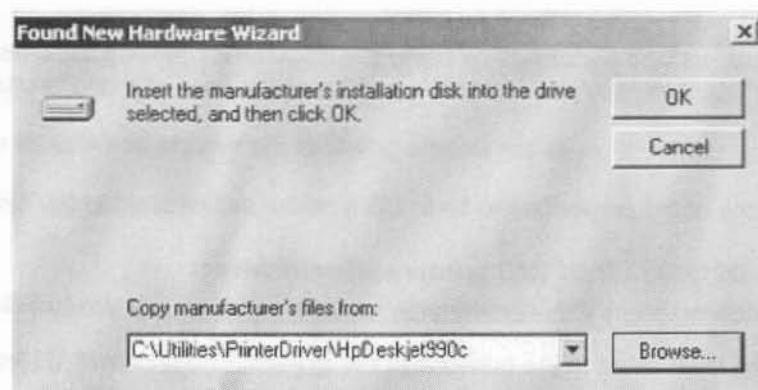

Figure 3-27 Search for Network path on hard disk
- 6.) Use the BROWSE button to search the following path on the hard disk (see: Figure 3-27)
- 6.) Use the BROWSE button to search the following path (see: Figure 3-27)